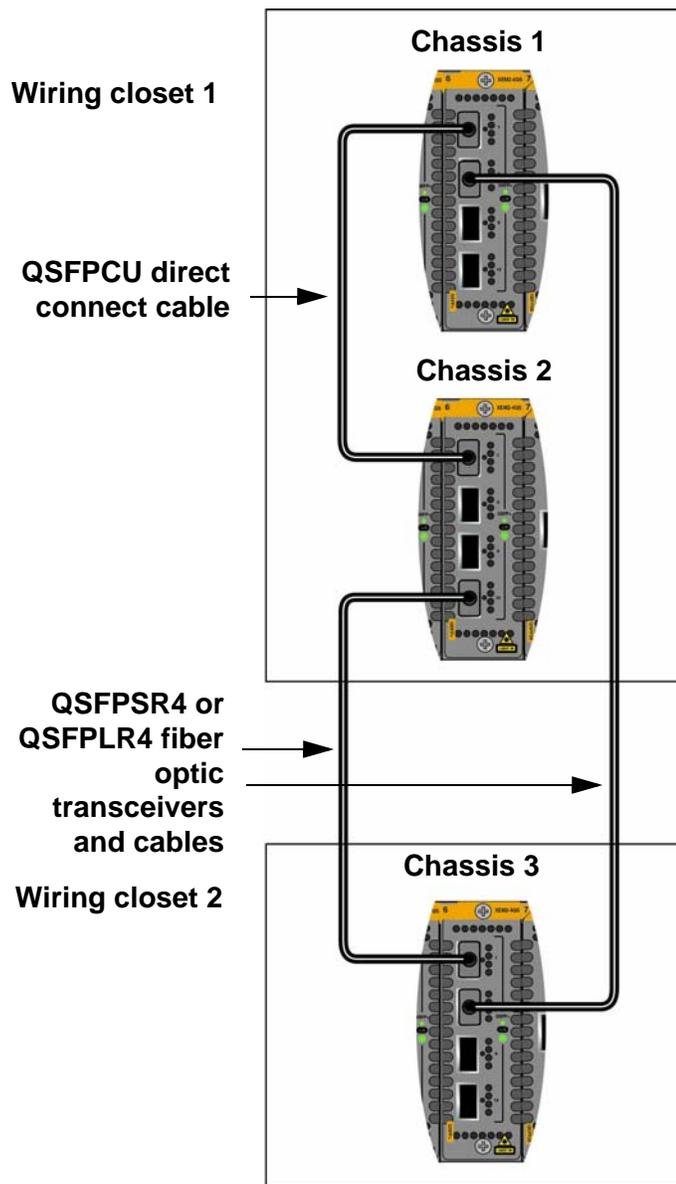

Figure 25. Unsupported Trunk with Both Direct Connect and Fiber Optic Cables on XEM2-4QS Line Cards
- ❑ The XEM2-4QS Line Card also supports QSFPICU and QSFP3CU direct connect cables. As with the XEM2-12XT Line Card, you can build stack trunks using XEM2-4QS Line Cards with either direct connect cables or fiber optic transceivers, but not both. Figure 25 is an example of an unsupported trunk on XEM2-4QS Line Cards because it uses both direct connect and fiber optic cables.